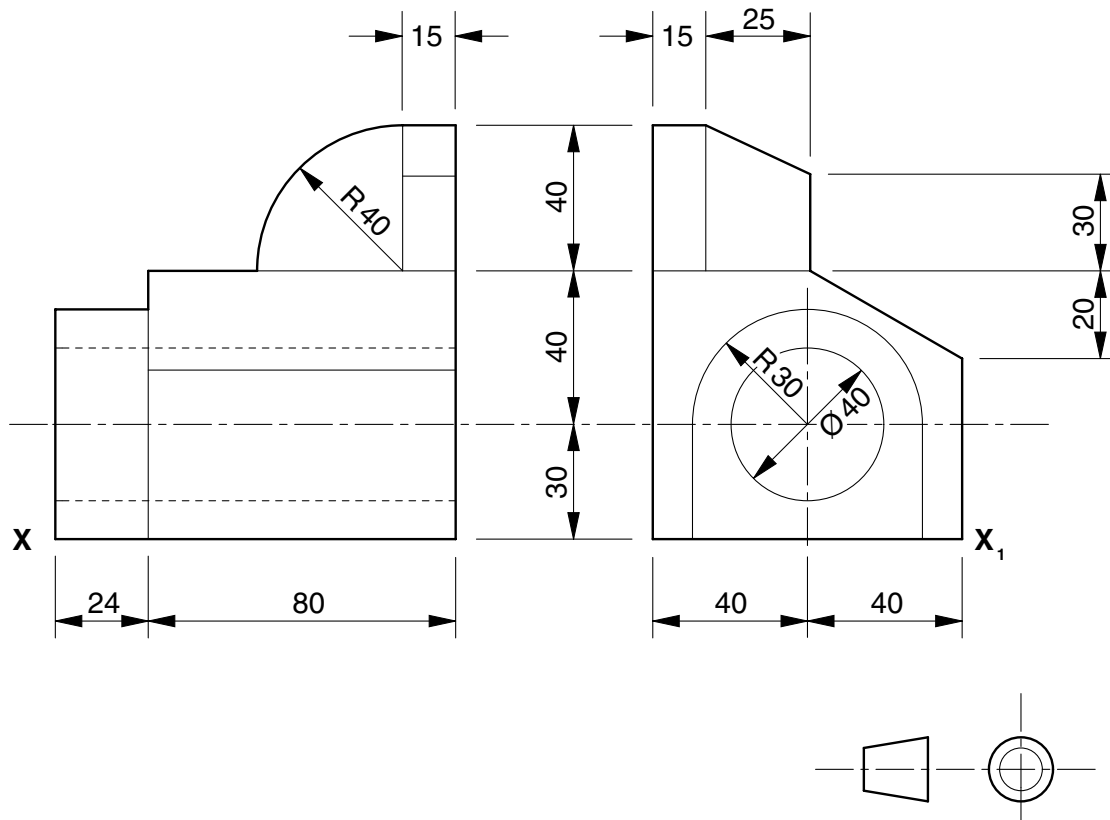

Fig. 2
- 4 Fig. 2 shows two views of a bearing drawn in first angle projection.